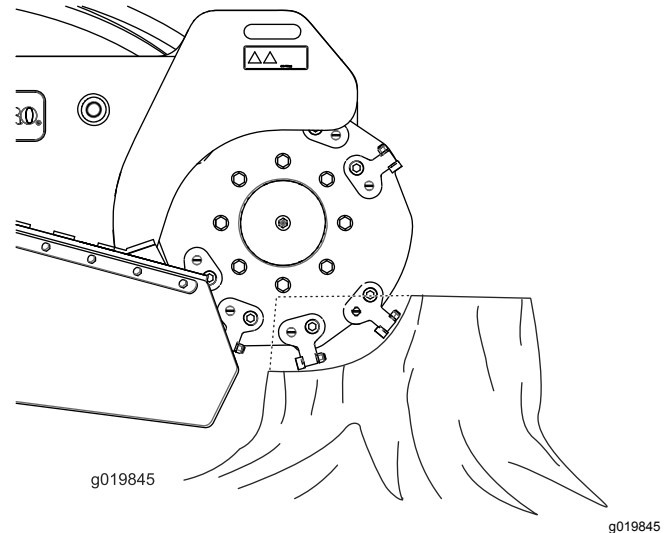

**Figure 22**
3. Secure the machine to a trailer with chains or straps using the tie-down/lift loops at the front and rear of the machine (Figure 21 and Figure 22). Refer to your local ordinances for trailer and tie-down requirements.
You can lift the machine using the tie-down/lift loops as lift points (Figure 21 and Figure 22).